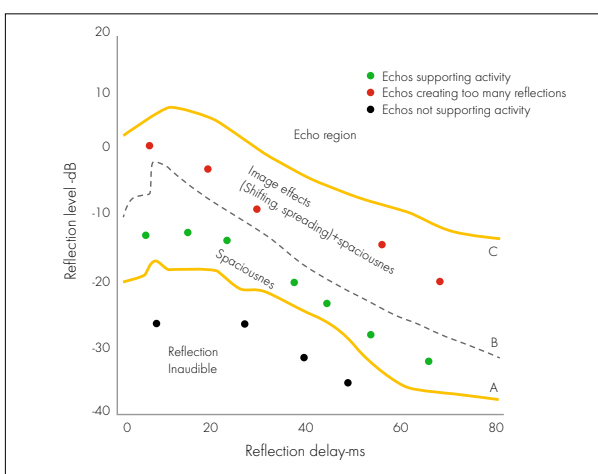

Figure 4
Figure 4 shows the threshold curves for subjective perceptions of reflections in a room. The lower curve (A) shows the threshold for detecting the reflection. Below the curve, reflections are not audible. In the area between threshold curves A and B, reflections contribute positively to the loudness of the sound without causing the negative effects. Above threshold curve B reflections will cause image shifts, which mean that the direction of the original sound source is shifted. This is not wanted in cinemas.
In figure 4 the ecogram example shows separate reflections. The reflections between curve A and B (green) are supporting the activity. The echoes between curve B and C (red) needs to be adjusted. Echoes below curve A are neglectable (black).